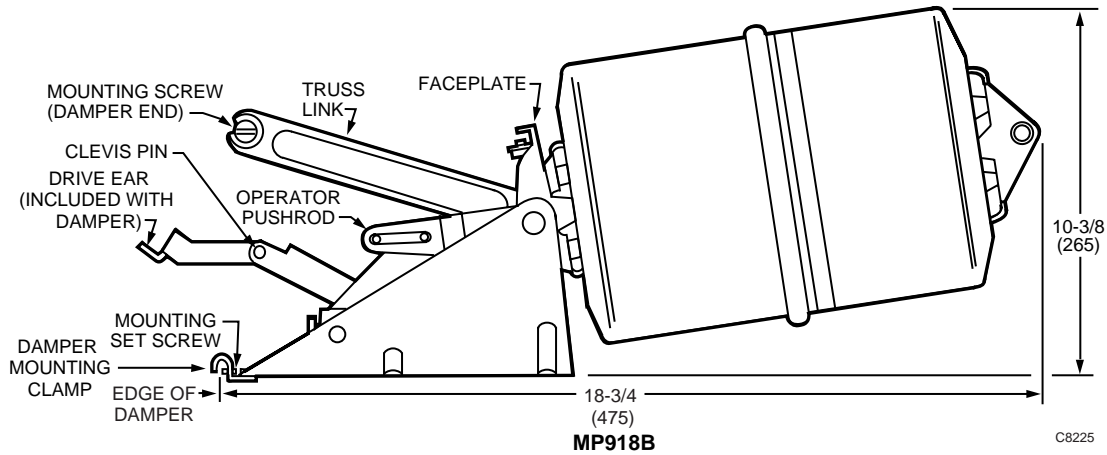

Fig. 7. Internal Mounting Normally Open Dimensions in Inches (Millimeters).
- 1 For internal mounting dimensions, see Figure 7.